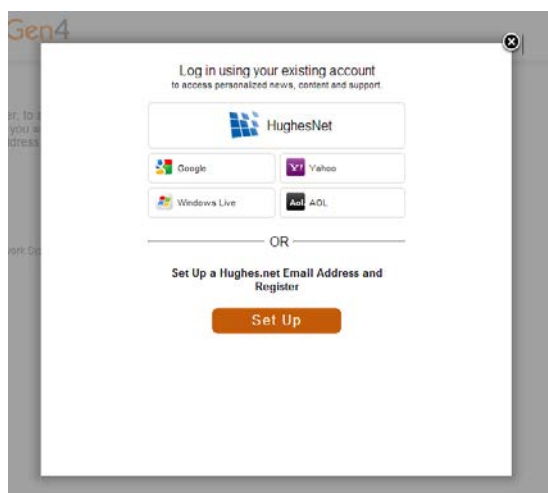

Figure 40: Email account screen
8. The email account screen appears as shown in Figure 40.